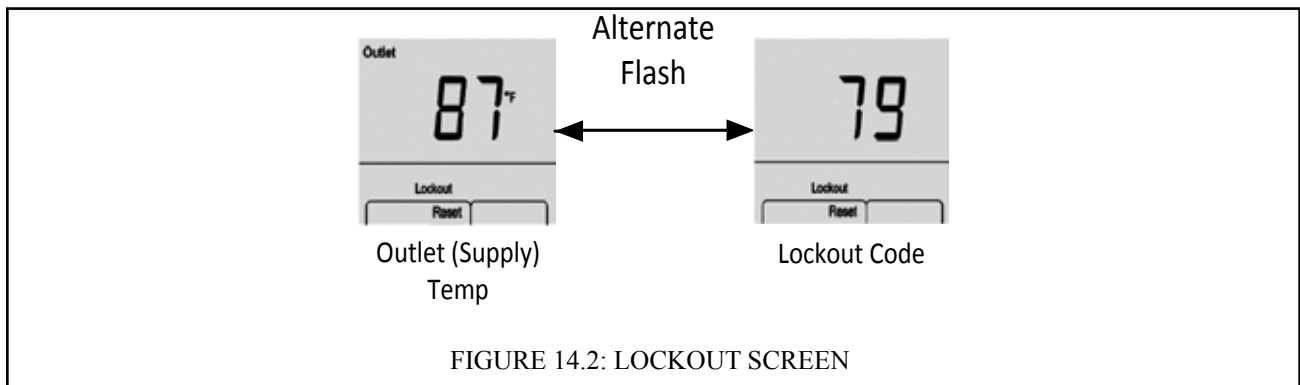
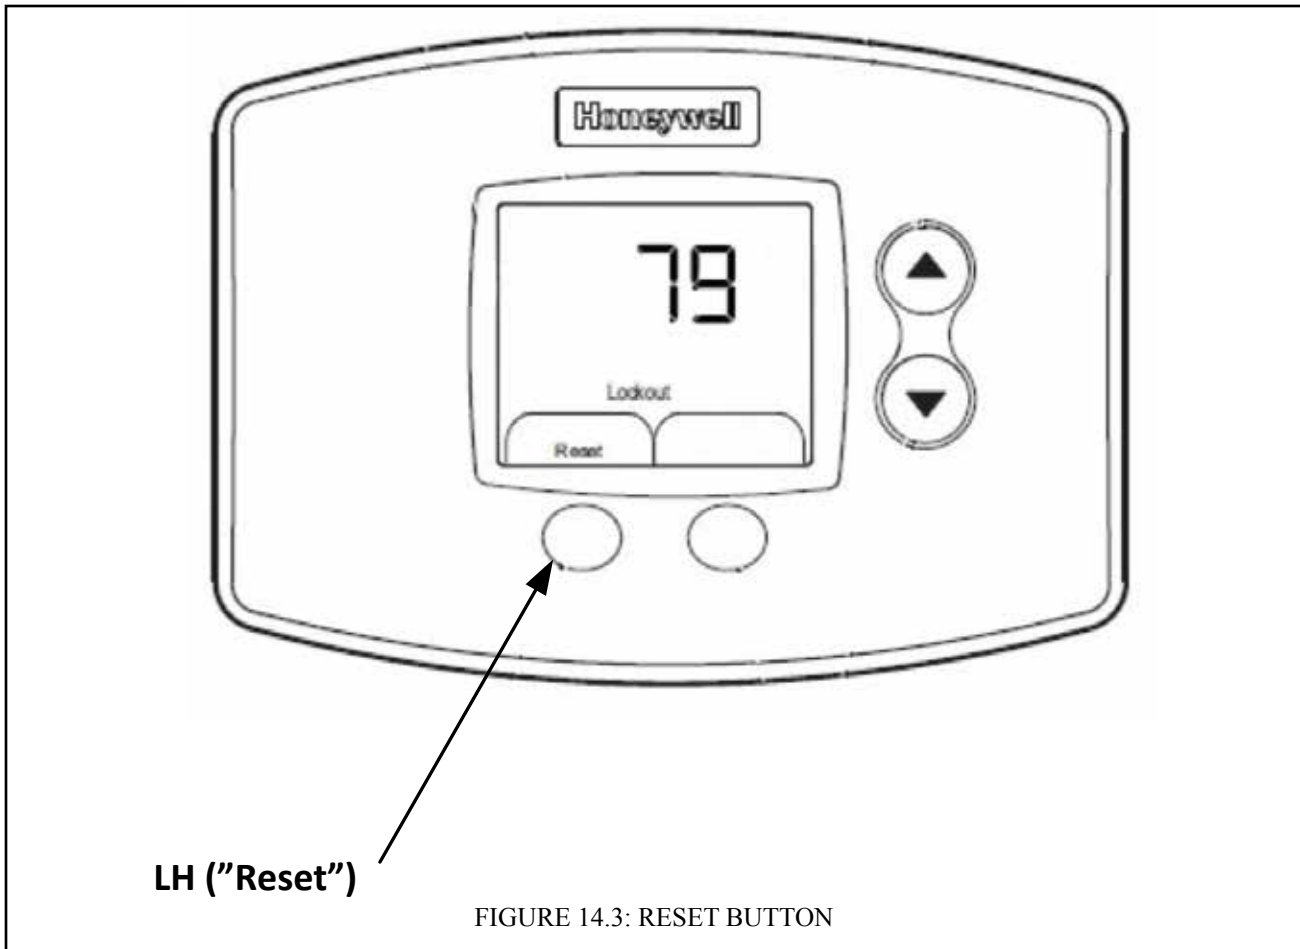

FIGURE 14.2: LOCKOUT SCREEN
FIGURE 14.3: RESET BUTTON
**Lockout** – An abnormal condition exists that, when cleared, will require manual reset of the control. When a Lockout is present, “Lockout” is shown on the home screen as shown in Figure 14.2 and the home screen will alternately flash the outlet temperature and the Lockout Code as shown. A list of these codes, and their meanings, are shown in Table 14.4. Codes used for Holds and Lockouts are the same and in some cases a hold condition that lasts long enough will become a Lockout. Lockouts can be cleared by either pressing the LH button as shown in Figure 14.3, or pressing the reset button on the control itself. The most recent Lockout can be seen, and cleared, on the “Lockout screen” shown in Figure 12.7 (interrupting power to the boiler also clears this history).